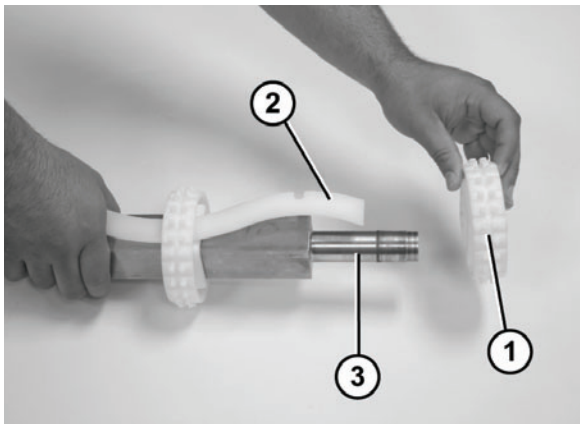

Figure 73
- Slide the sprockets (**Figure 73, item 1**) and the sprocket alignment bar (**Figure 73, item 2**) off the drive spindle (**Figure 73, item 3**).